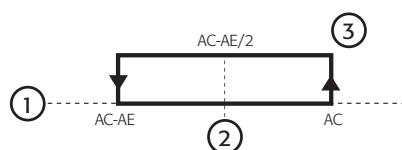

Fig. 4.I
- indicates that the limit between Ac and AE has been exceeded (deriving from the calculation: $Ac - AE/2$, see Fig. 4.I);
- indicates that the temperature set point Ac has been exceeded (see Fig. 4.I);